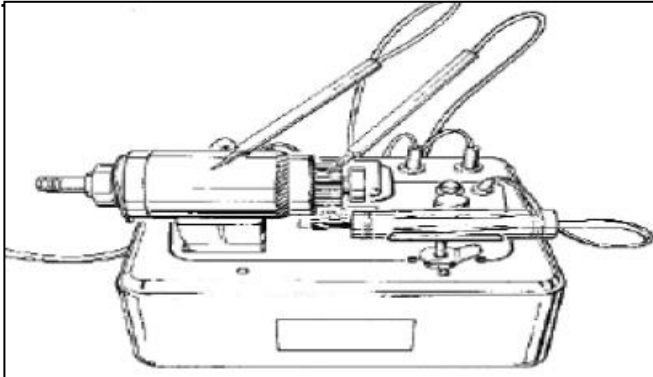

Figure 9-11
1. Check armature for grounded circuits by placing one test lead of a Dielectric Breakdown Tester, also referred to as a “growler”, on the commutator and other lead at armature shaft. The ground test light should not flash. A flash indicates failed insulation between core and armature wiring. See Figure 9-11.